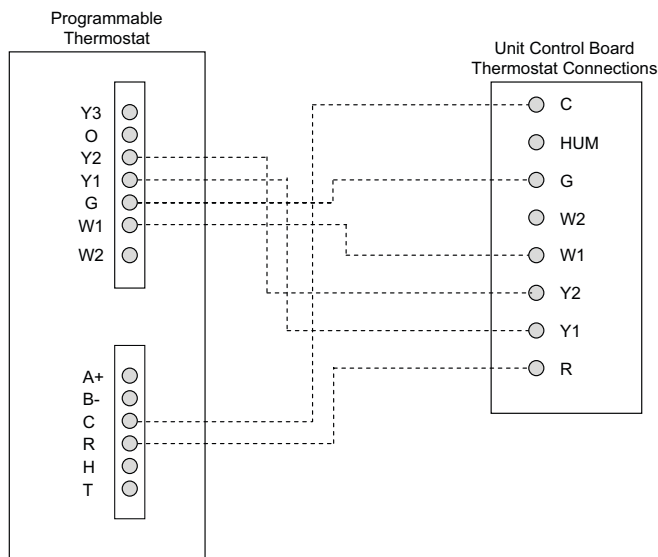
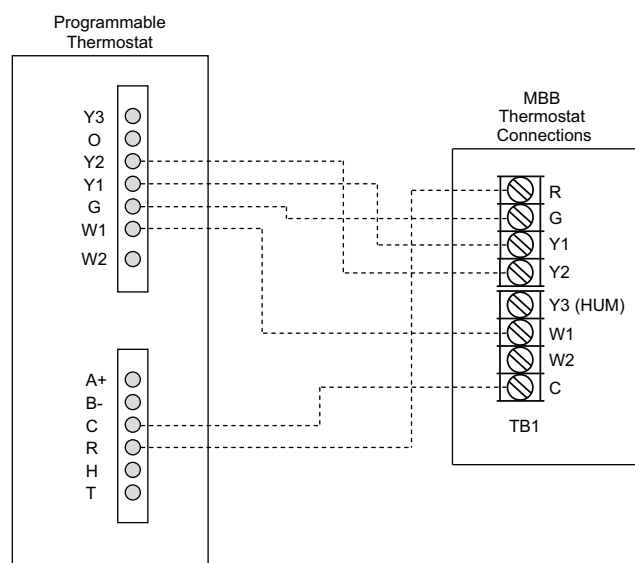

Fig. 43 — Typical Thermostat Connections – Electromechanical Controller UCB
Fig. 44 — Typical Thermostat Connections – SystemVu Controller MBB
5. For electromechanical controller units see Fig. 43 for typical thermostat connections. For SystemVu controller units see Fig. 44. Refer to the installation instructions included with the Carrier Connect Plus thermostat for more information.